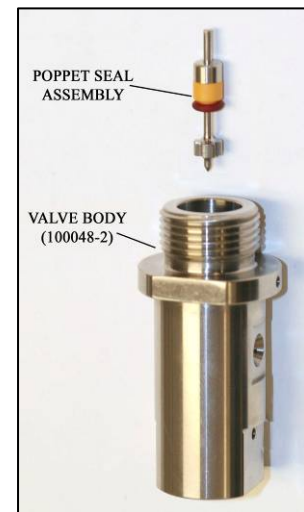

Figure 7
15. Insert the Poppet and Seal Assembly into the actuator end of the Valve Body, pointed tip first. **See Figure 7**